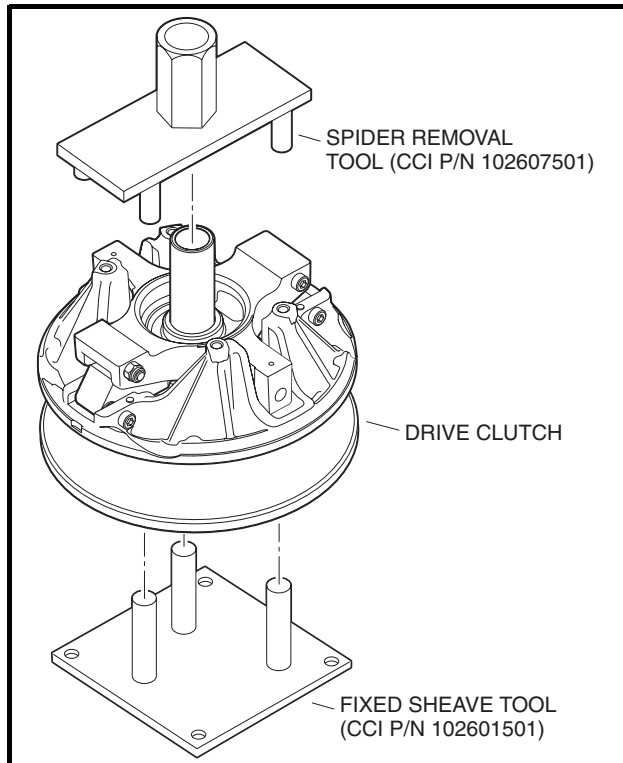

Figure 13a-34 Drive Clutch Service Tools
- Use only a dry cloth, and lightly wipe the shaft of the fixed face assembly (15) (Figure 13a-35, Page 13a-37). Do not use a brush or steel wool. These abrasives will damage the surface of the shaft.
1. Use a 7/16-inch socket to remove the four bolts (1) and washers (2) that secure the plate (3) to the clutch cover (4) (**Figure 13a-35, Page 13a-37**).
2. Remove the cover (4) and spring (5) from the clutch spider (6).
3. Inspect the torque rollers (7), weights (11) and rollers (10). Replace if necessary.